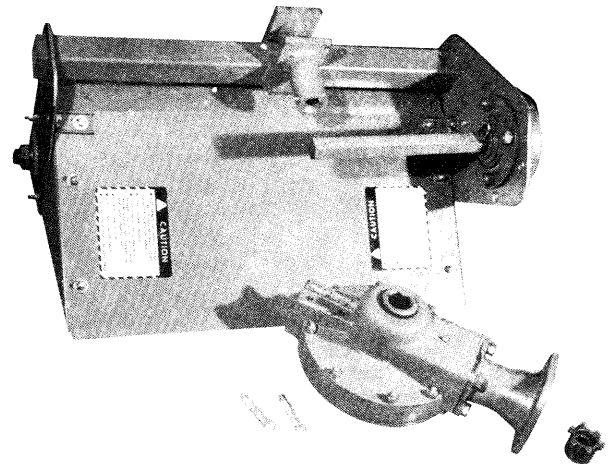

Fig. 3
4. The Rotary Plow Drive will appear as shown in fig. 3 when properly prepared for attaching to the Rotary Cultivator.